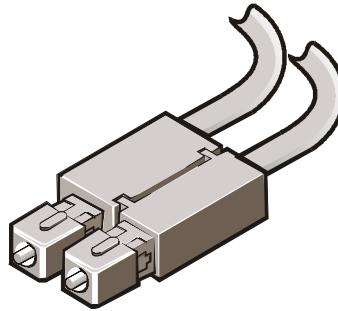

Figure A-7. SC Optical Connector
Fibre Channel networks implemented with optical cables use a subscriber connector (SC) such as the one in Figure A-7. There are two types of optical cables: longwave and shortwave. Longwave cables use a 9-millimeter (mm) single-mode (SM) fiber. Shortwave cables use a 50/125-mm or 62.5/125-mm multimode (MM) fiber.